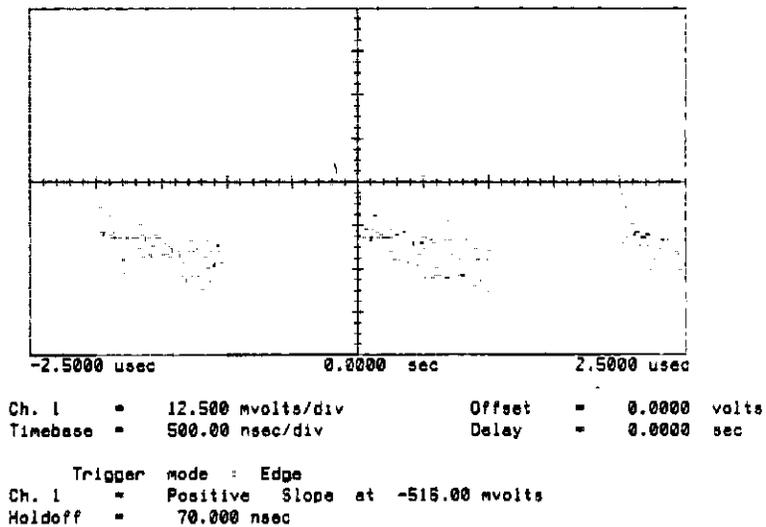

Figure 7-22. Magnify in the Averaged Mode With 2 Averages
9. Set NUMBER OF AVERAGES = 2 (see figure 7-22).